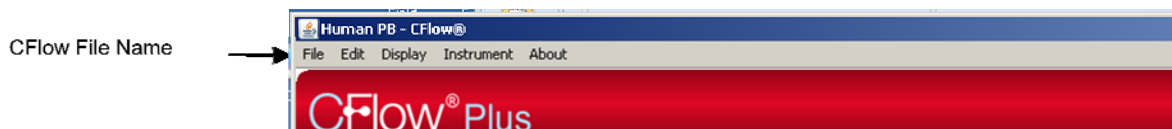

Figure 3-20 New file name, “Human PB”, appears in the upper left corner of the CFlow workspace after saving and naming the CFlow file.
2. After the CFlow file name is applied, it will appear in the upper left corner of the CFlow file workspace (Figure 3-20).